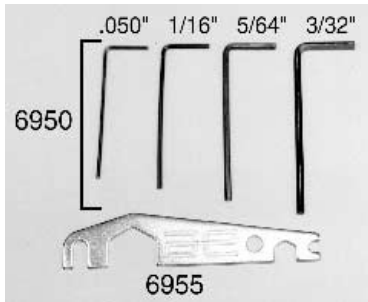

Fig. 1
□ **Fig. 1** Before we start to assemble the front end, remove the #6955 shock/turnbuckle wrench and the #6950 tool bag (which contains the four Allen wrenches) from the kit master bag. Set them aside, we will be using them through out the assembly.